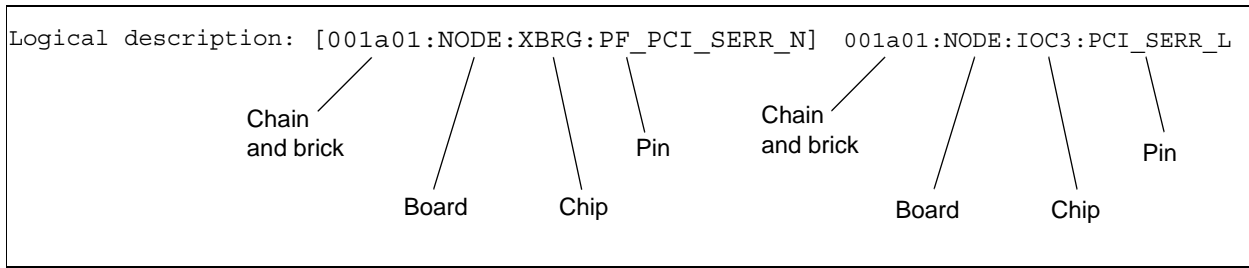

Figure 2-10 Logical Description Format
- Logical description: provides a logical description of the nodes on the failing net. The format of each node is <chain and brick>:<board>:<chip>:<pin>. (Refer to Figure 2-10.) The boundary scan interconnect test displays the node that detected the miscompare in square brackets [].